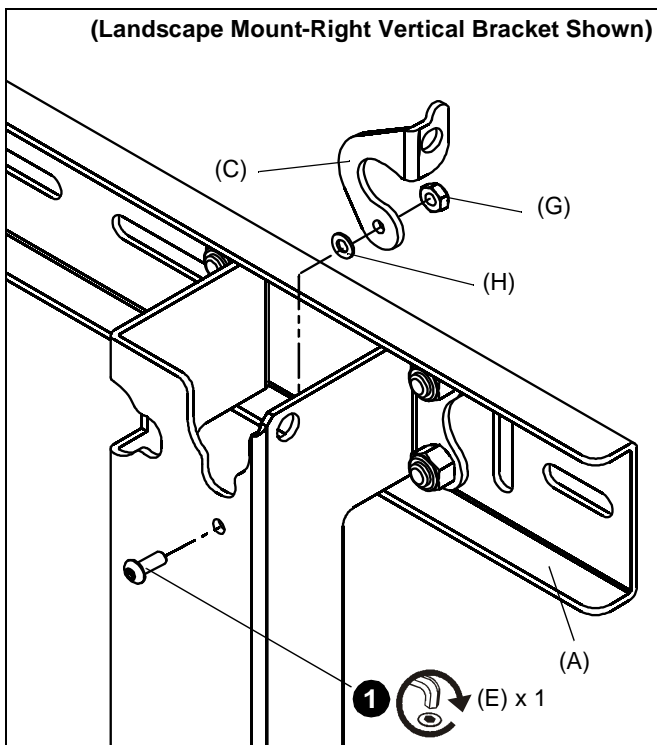

Figure 1
1. Attach locking flag (C) to wall mount (A) right vertical bracket using one 10-24 x 1/2" button head cap screw (E), one .194 x .375 x .032" spacer (H), and one 10-24 lock nut (G) through lower hole on locking flag and upper hole on wall mount right vertical bracket. Repeat with wall mount left vertical bracket. (See Figure 1)